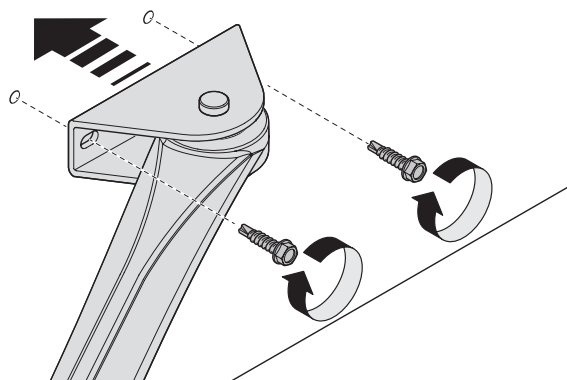

Fig. 11
03. Fix the bracket to the solid section of the gate leaf Fig.11.